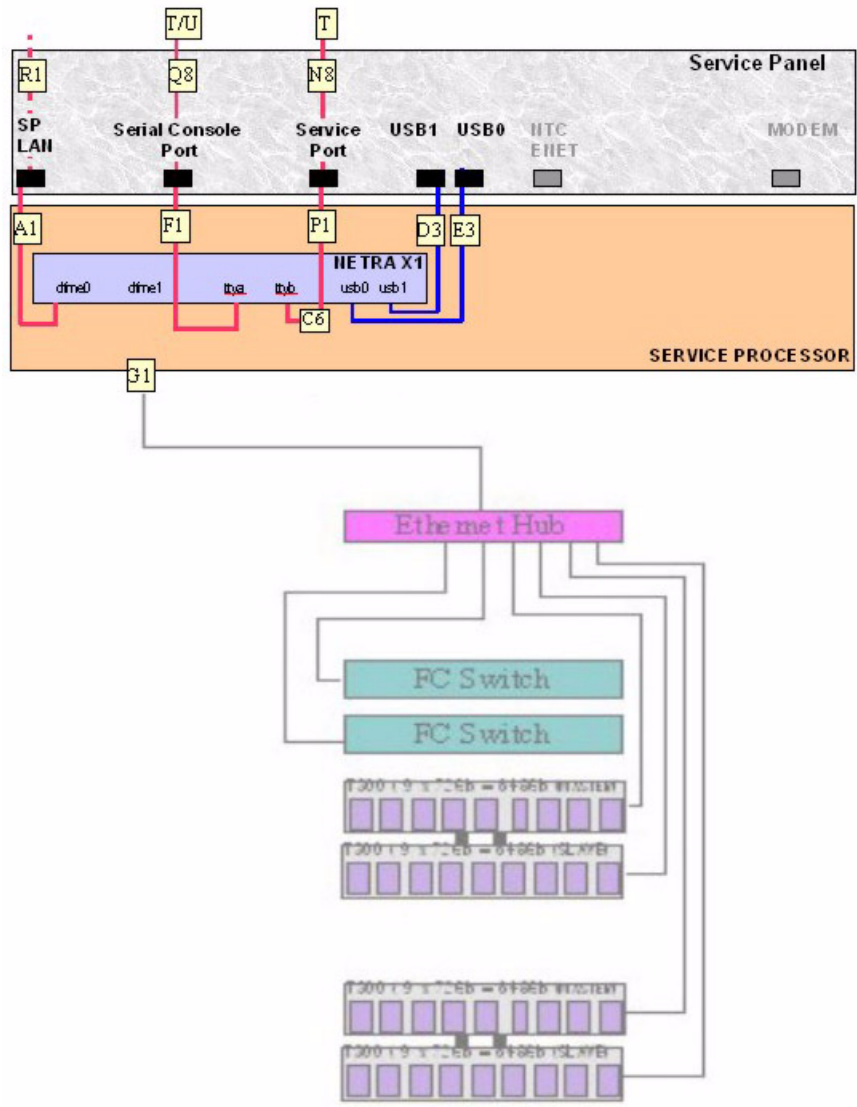

FIGURE 6-11 Service Processor Service Panel
The access to the service processor is through the service panel. The service panel is bolted to the back of the Sun StorEdge 3900 and 6900 series storage system inside the back cover. The functions of the service processor are carried out through the use of a console cable connected from the serial console port on the service panel to a laptop or a serial port of a workstation or server (cables and DB9 and DB25 adapters are shipped with the storage system). FIGURE 6-11 shows the service panel and its connections to the service processor.
5. Identify the location of each cable on the inside of the service panel through the placement shown in FIGURE 6-11, TABLE 6-5, and TABLE 6-6. Remove all cables from the inside of the service panel.
6. Close the service panel. Identify the location of each cable on the outside of the service panel by the placement shown in FIGURE 6-11, TABLE 6-5, and TABLE 6-6. Remove all cables from the outside of the service panel.